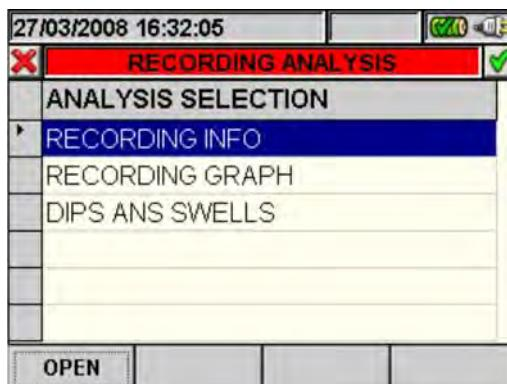

Fig. 88: Recording analysis (Reg-type data)
2. Press the **ESC** key (or the smart icon) to exit the function and go back to the “Recording analysis” page (Fig. 88).
- The **ESC** key (or smart icon ) to exit the function and go back to the “Recording analysis” page (Fig. 88).
- The **ESC** key (or smart icon ) to exit the function and go back to the "Recording analysis" page (Fig. 88).